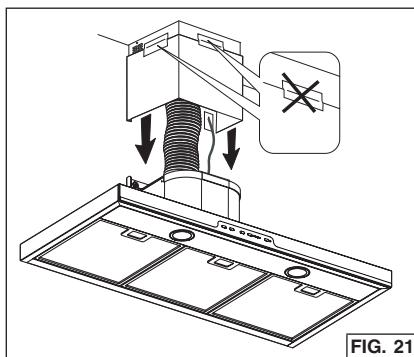

FIG. 21
10. Remove tape from flues and lower into position on the hood. Fig. 21.